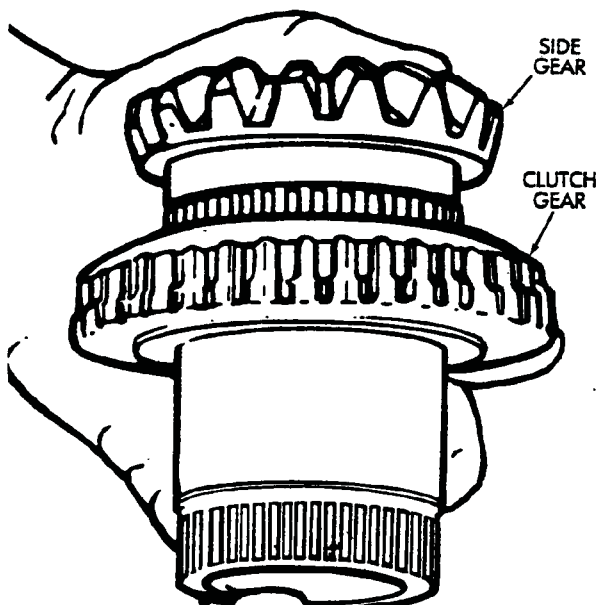

Fig. 4-55 Assemble Clutch And Side Gears
51. Assemble the side and clutch gears (Fig. 4-55).